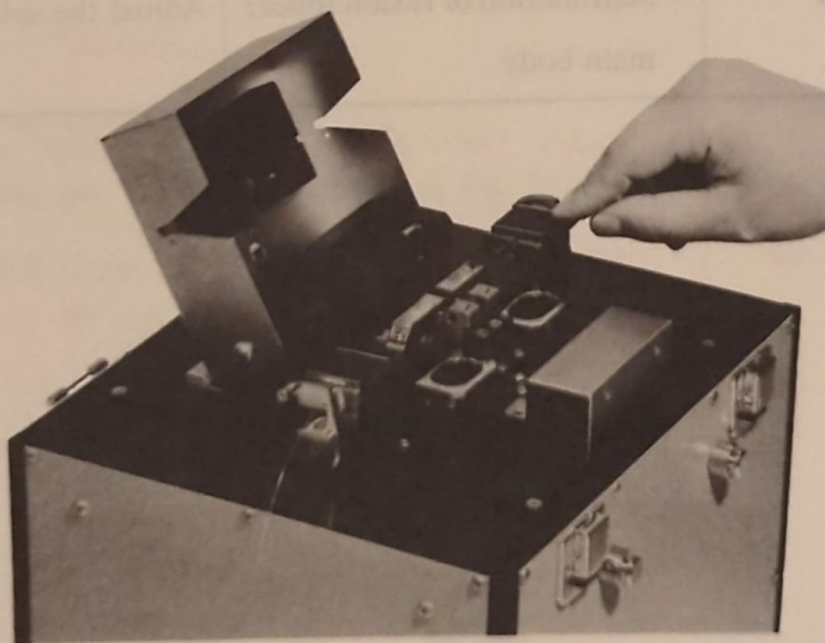

Fig. 24 Closing the Fiber Chucks of the Proof Tester Attachment
- (2) Close the fiber chucks of the proof tester attachment ⑮ until "click" sound. Then slowly pull the handle ⑭ toward you. (Refer to Fig. 24)